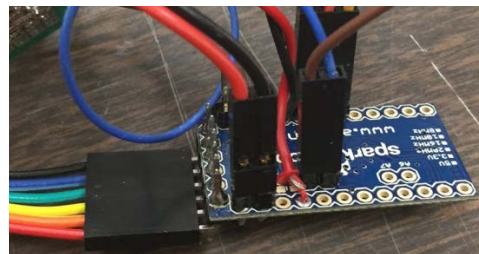

Figure 11: Battery Jumper connected to Arduino Mini Pro.
- 11) Each of the four sensors (parts 9-12) have multicolored 4-wire jumpers connected to them. Each jumper is aligned to match the black, red, brown, and blue wires from the Arduino Mini Pro. Connect all four sensors such that the green wires all align with the black wire's row. Seen in Figure 11. It is important these rows to not cross as this will ruin the system.